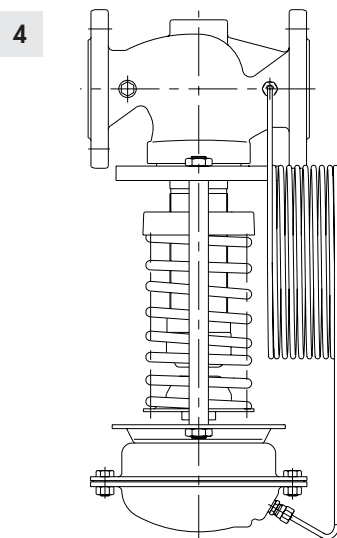

Fig. 2: Control line kit without compensation chamber
- ¹⁾ The minimum or maximum permissible temperature may be restricted by the valve material. See temperature diagrams in ► T 2500, Fig. 2.